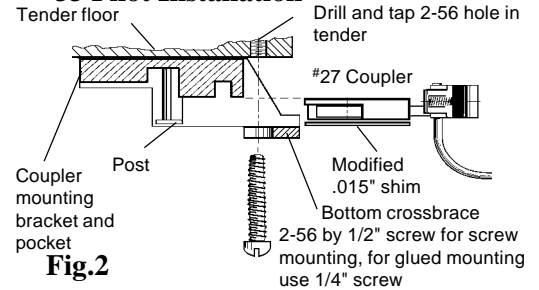
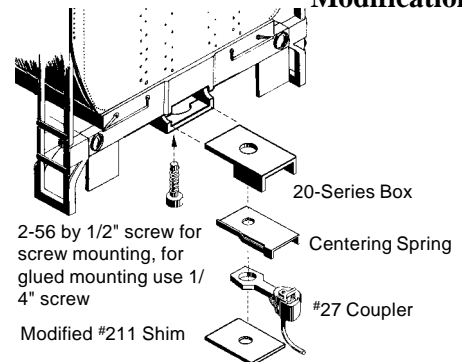

Fig.2
Fig.3
6. Option 1: Use a #50 drill to drill a hole in the floor just in front of the bottom coupler crossbrace. Slip the drill bit between the crosspiece and the inside platform down to the floor. Hold it against the inside of the half circle of the crosspiece. Drill through the floor and the piece just under the floor. Tap the hole 2-56 through both pieces. See Fig.2. This is the simplest and most versatile conversion. See Fig.3.